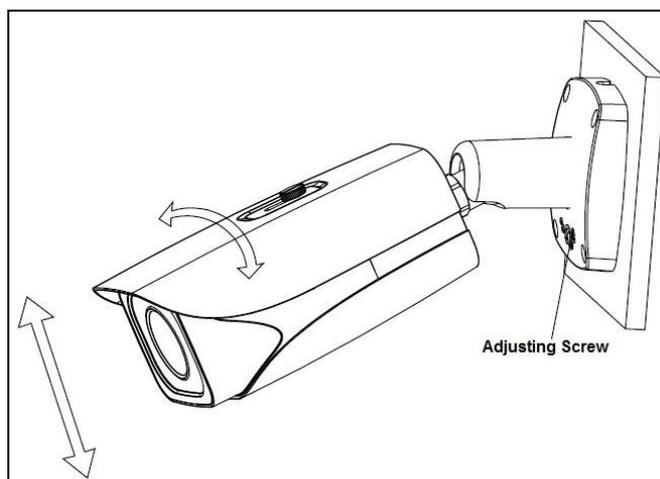

Figure 4-4
8. Route the cables from the back of the camera through the installation medium and align the four (4) holes on the base of the camera with the expansion bolts.
13. Adjust the monitoring direction of the camera. Use a screwdriver to loosen the adjusting screw on the base of the camera, then position the camera by tilting, twisting, and rotating the camera as shown in Figure 4-4, below. Use the following camera adjustment limits:
**Note:** Do not rotate the camera more than three (3) times in any one direction.